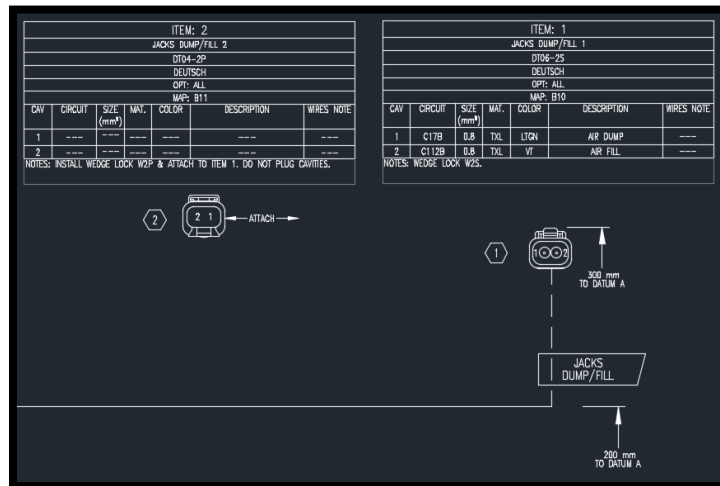

FIG. 6-2
- Disconnect deutsch connectors (Item's 1 & 2) from Hadley ECU 6" Extension harness (4087-GG5-001) and remove wedge lock from item 2. Refer to FIG. 6-2.